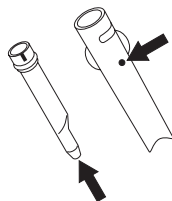

Figure 23
- Check that the two holes (indicated by the arrows in Figure 23) are not clogged. If necessary,